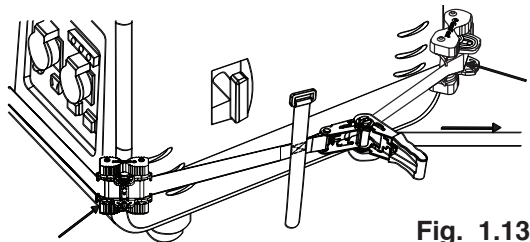

Fig. 1.13
k. Pull the Kevlar® Strap slack tight through the Ratchet Buckle center. Maintaining tension on the Kevlar® Strap, position the Angle Braces into the desired positions on the corners of the generator. (Fig. 1.13).